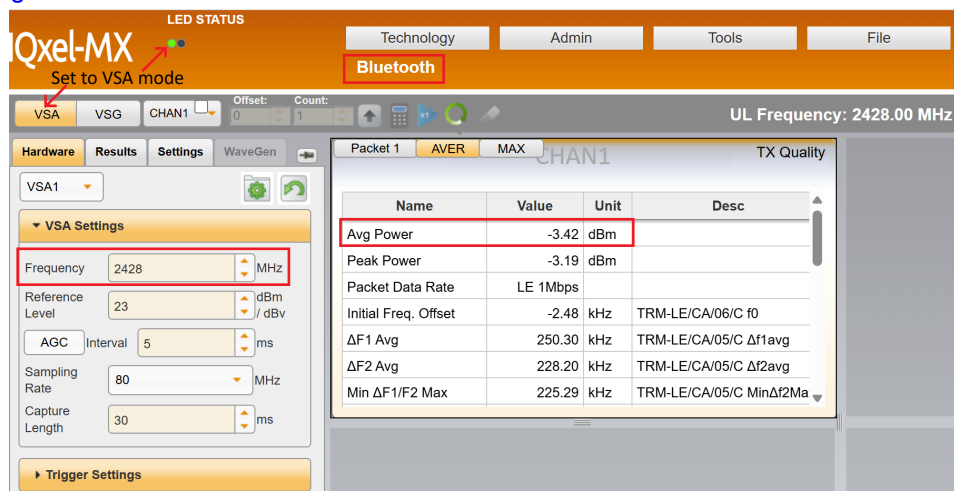

Figure 6-2. Example LitePoint Screen Configuration
4. Before starting transmission, make sure to configure the VSA properly. If using LitePoint, your screen should resemble Figure 6-2